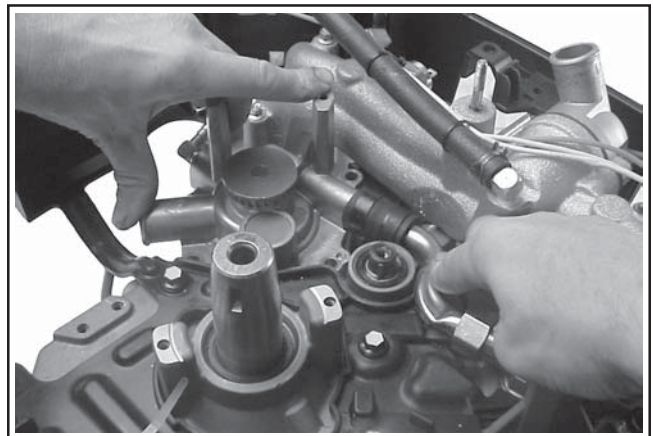
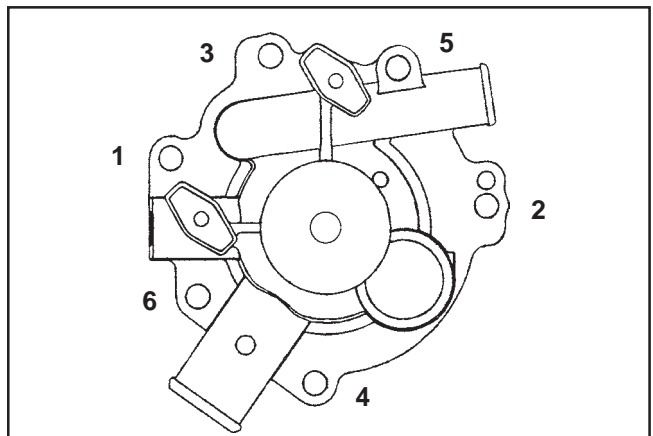

Figure 11-64. Pushing Down on Pump and the Tube for Installation.
Figure 11-65. Water Pump Torque Sequence.
8. Carefully push the water pump down from the raised position, rotating the tube 90° within the end connections. Guide the pump into position over the O-Ring; aligning the two mounting pins and five screw hole locations. See Figure 11-64. Start all of the screws, with the longer screw nearest the pump outlet. Torque the screws to **9.9 N·m (88 in. lb.)** in the sequence shown in Figure 11-65.